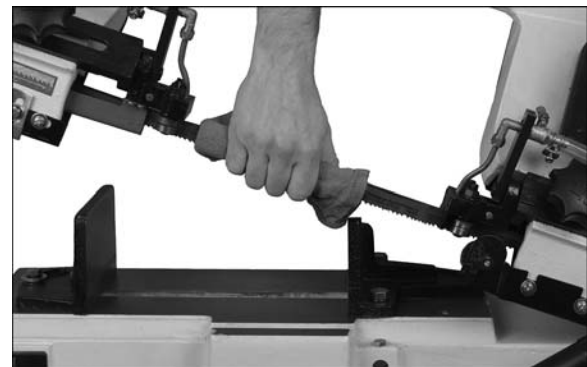

Figure 26
4. Loosen nut (D) and rotate eccentric shaft (E) to adjust side bearing until bearing just touches side of blade. Do not pinch the blade.
5. Blade should still move up and down freely when grasped as in Figure 26. Make sure blade teeth do not interfere with guide bearings.